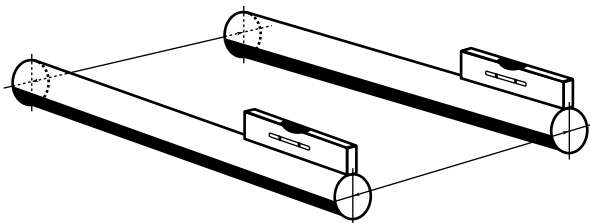

Figure A-1—Align Shafts
1. The shafts must be parallel within fairly close limits. This is readily done by using a machinist's level and feeler bars (See Figure A-1). First, using the machinist's level, make sure the shafts are level or in the same plane. Then, using the feeler bars, make sure the shafts are parallel in that plane. If the shafts can float axially, lock them in the normal running position before attempting to align them. Most single strand drives will perform acceptable if the shafts are parallel and in the same plane within 0.050 in./ft (4.2 mm/m) of shaft length, or 1/4 degree. However, high speed, high horsepower, or multiple strand drives should be aligned within the tolerance obtained from the following formula: